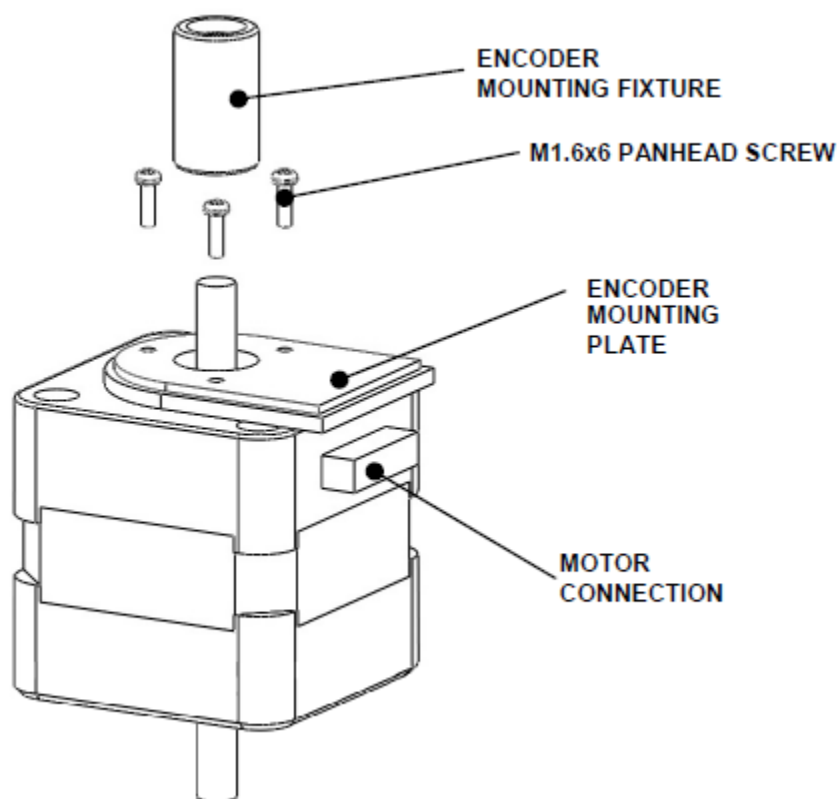

Figure P-10: The Encoder Mounting Plate and Fixture
1. Attach the Mounting Plate to the RP Y Motor (50800250) with the Encoder Mounting Fixture (DSXFIX015) using three M1.6x6 Pan Head Screws and Loctite 425. Ensure that the mounting plate is centralized around the pulley idler shaft (Figure P-10).